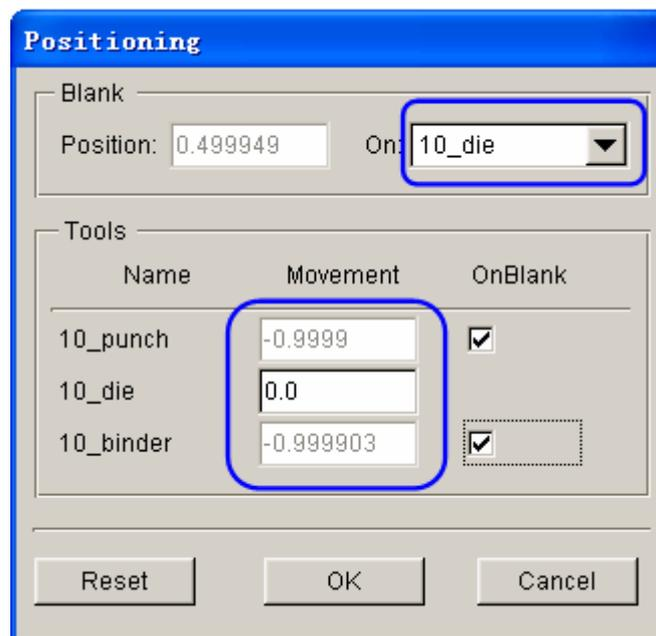

Figure 2.32 After tools auto positioning
2. Select die in the drop-down list for On in **Blank** group as the reference tool for auto positioning, which means that this tool is fixed during auto positioning. Then activate the checkboxes for punch and binder in Tools group to auto-position all the tools and blanks. The result is illustrated in Figure 2.32.